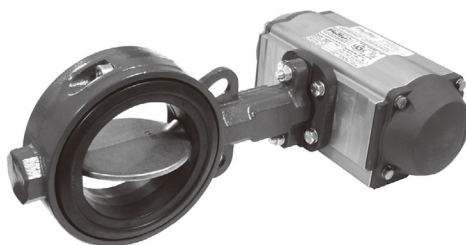

Fig. 1: JKTL Pneumatic Butterfly Valve
- JKTL (Fig. 1) · JKTL with single-acting JKTL Pneumatic Rotary Actuator